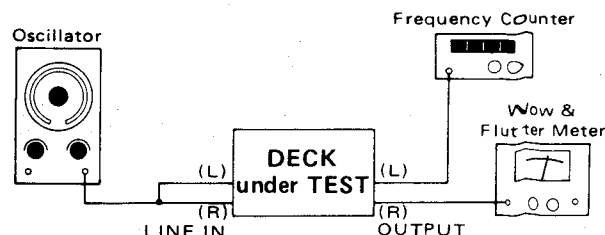

Fig. 4-4
1. Connect a frequency counter to the deck as shown in Fig. 4-4.
1. Connect a wow-and-flutter meter to the deck as shown in Fig. 4-4.